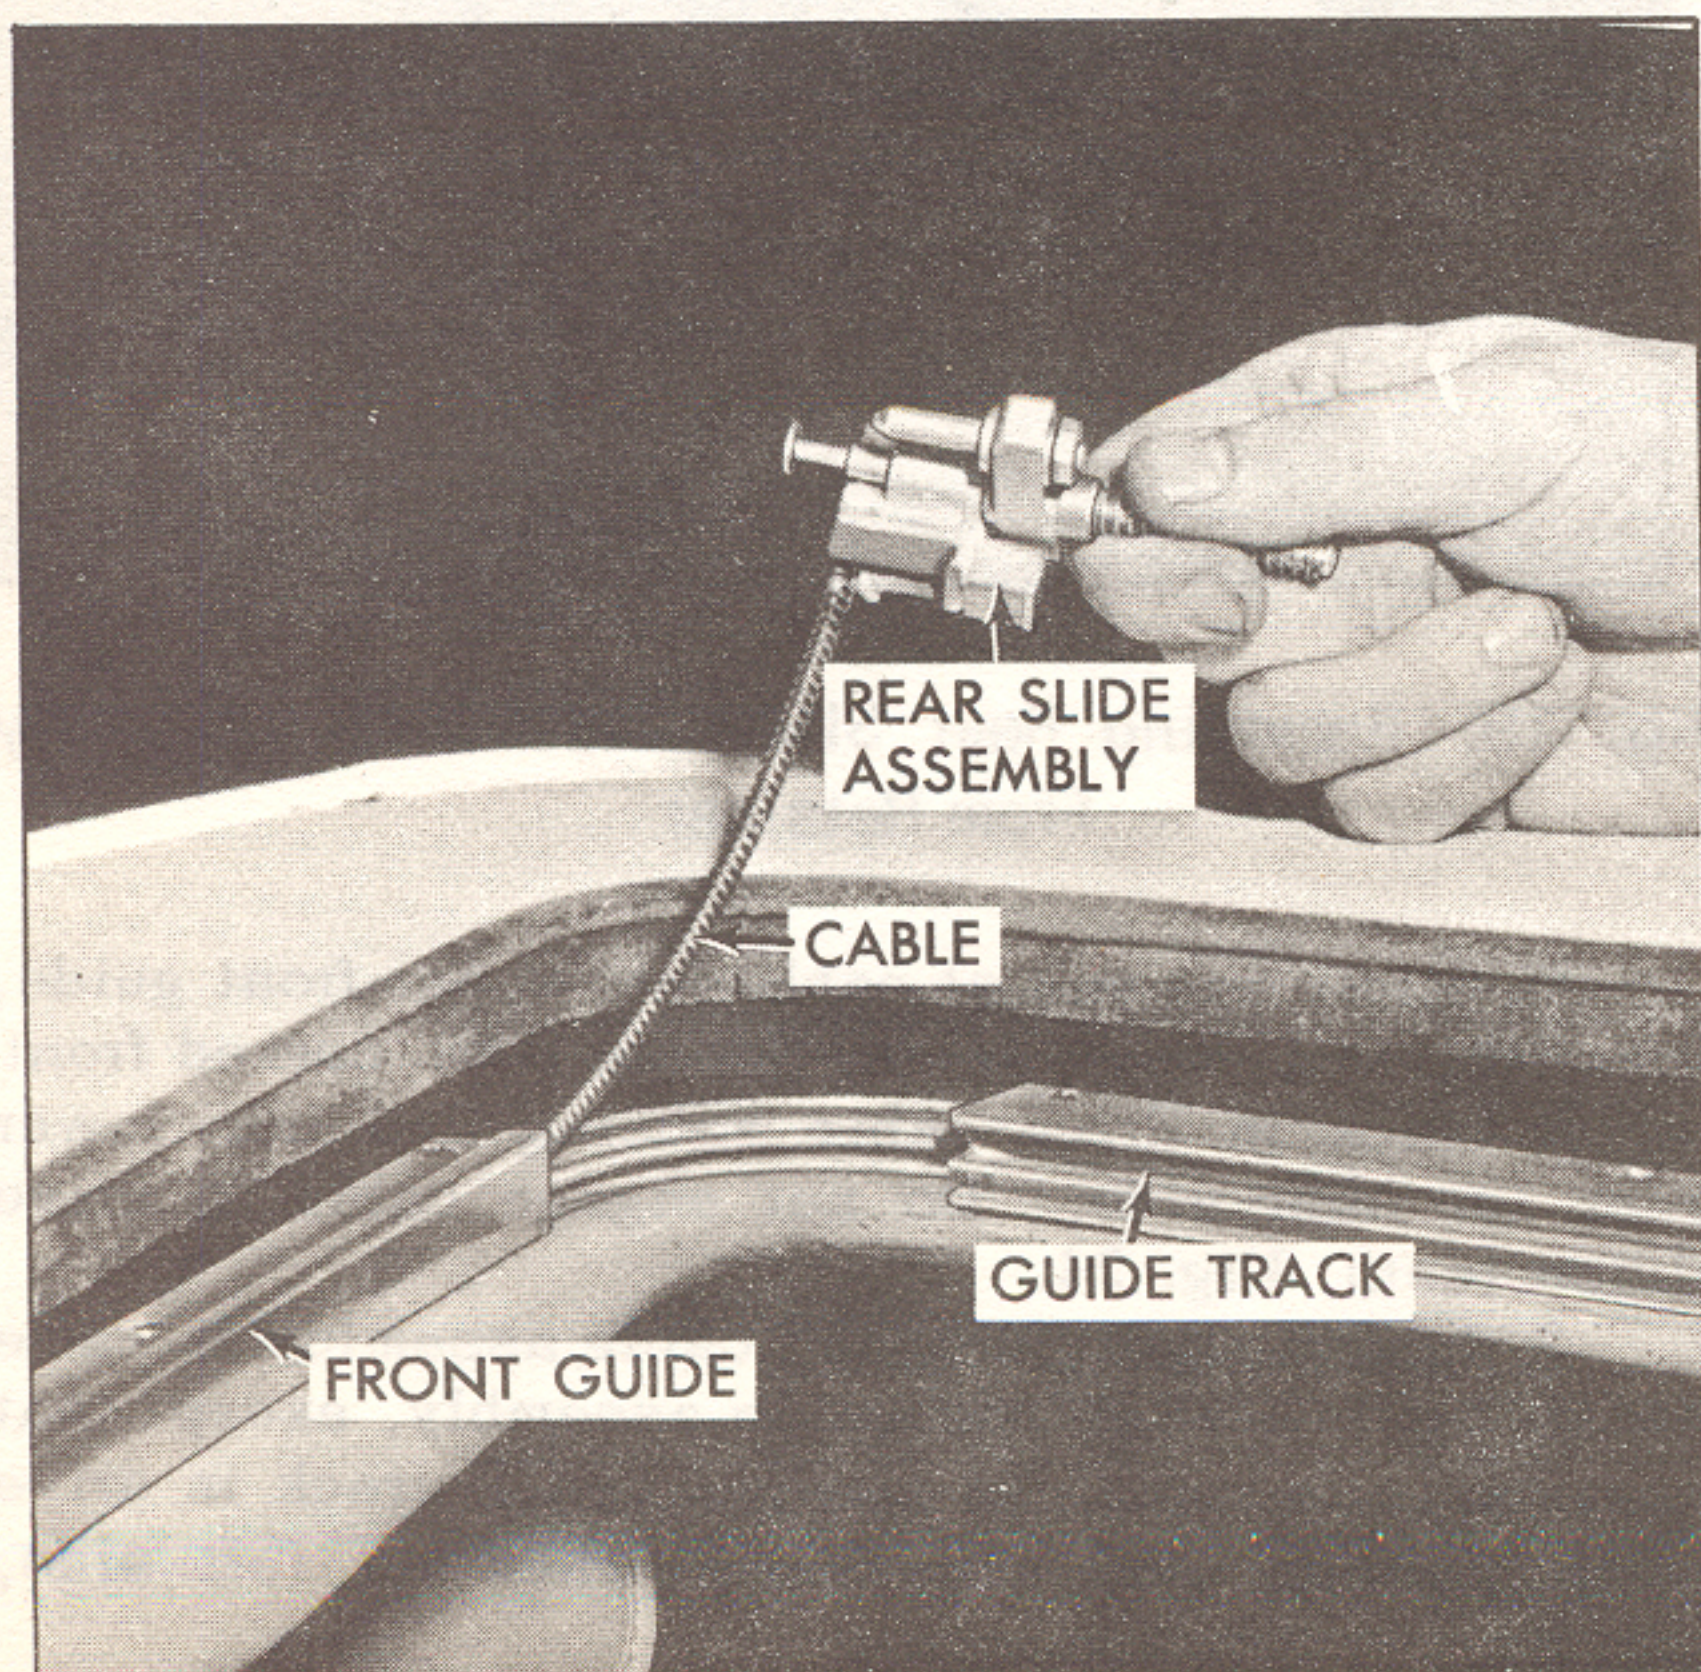

Fig. 21. Removal of Rear Slide and Cable
5. Remove slide from guide track and pull cable out of front guide, Fig. 21.